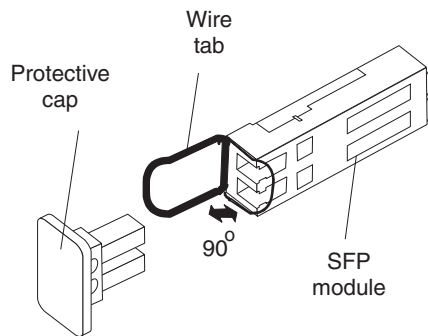

Figure 56. Unlocking the SFP module latch - wire variety
- For SFP modules that contain wire tabs, unlock the SFP module latch by pulling the wire latch outward 90°, as shown in Figure 56.